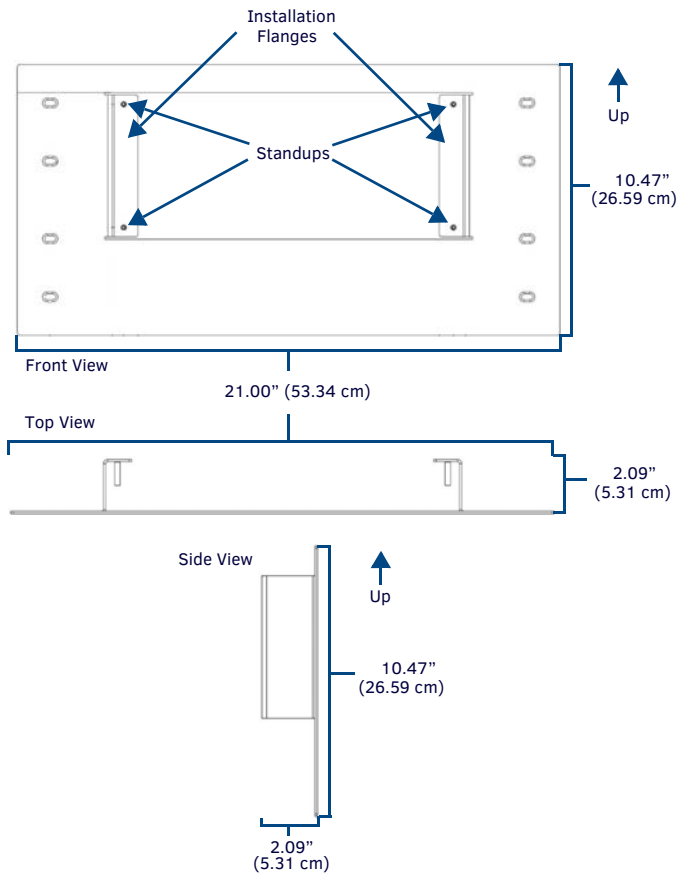
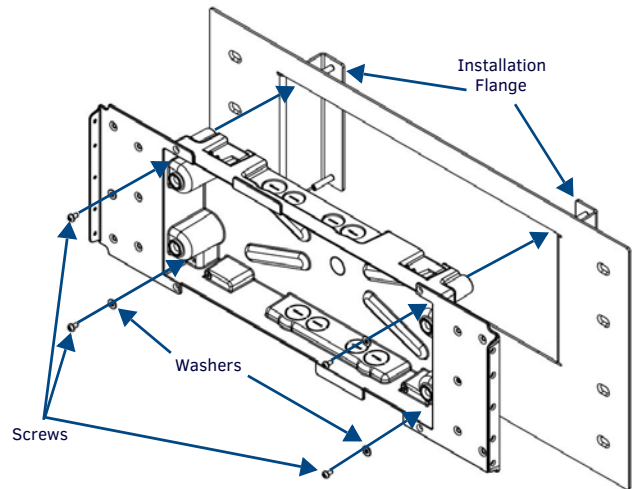
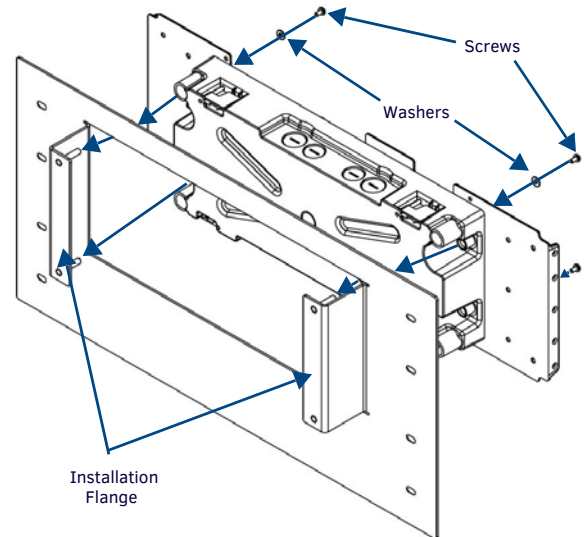

FIG. 1 MXA-RMK-20 MODERO X SERIES RACK MOUNT KIT
FIG. 2 INSTALLATION OF THE BACK BOX INTO THE MXA-RMK-20, FRONT VIEW
FIG. 3 INSTALLATION OF THE BACK BOX INTO THE MXA-RMK-20, REAR VIEW
The MXA-RMK-20 Modero X Series® Rack Mount Kit (FG5969-60) is an optional accessory for the MXD-2000XL-PAN 20.3" Modero X Series Panoramic Wall/Flush Mount Touch Panel (FIG. 1). The kit allows the touch panel to be mounted directly on an equipment rack, and includes a rack mount frame, screws and washers.
1. Secure the Rack Mount Panel to the rack with #10 screws. Make sure that the installation flanges (FIG. 2 and FIG. 3) face away from the front of the rack. The thinner flange of the Rack Mount Panel should be at the top (FIG. 1).
3. Pass a washer through a #6 screw and insert it in a standup screw hole (FIG. 2). Repeat this procedure at each corner of the Back Box.